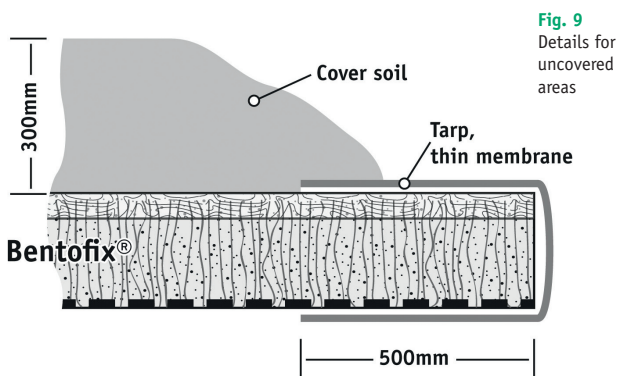

Fig. 9
16.12 Only as much Bentofix® GCL as can be covered by the end of the day should be deployed, or such amount that can be covered in a reasonably short time in the event of precipitation. Uncovered overlap edges should be protected overnight with a plastic membrane (fig. 9) to prevent bentonite hydration. The edges of exposed sheets should be weighted down with sandbags or equivalent ballast, which does not cause any damage to the GCL, to prevent uplift in the event of strong winds.
20.1 Uncovered areas should be protected at the edges overnight with a plastic membrane (fig. 9) to prevent bentonite hydration.